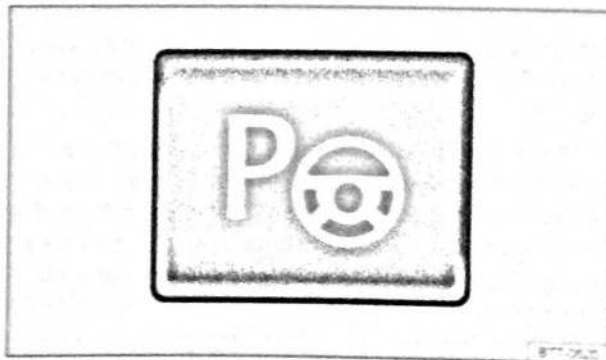

Fig. 158 In the lower section of the centre console: button for switching on the Park Assist system manually
- For parking spaces parallel to the road: press the  button ⇒ Fig. 158 once while travelling at a speed of up to approximately 40 km/h (25 mph). An indicator lamp lights up in the button when the function is switched on.
- For parking spaces perpendicular to the road: press the  button ⇒ Fig. 158 twice while travelling at a speed of up to approximately 25 km/h (15 mph). An indicator lamp lights up in the button when the function is switched on.
- Press the  $\Rightarrow$ Fig. 158 button. An indicator lamp lights up in the button when the function is switched on.